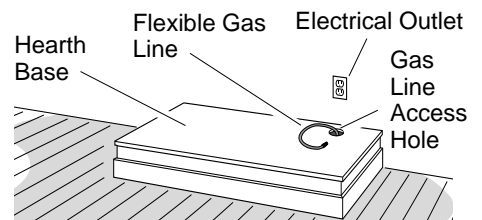

Figure 23 - Placing Hearth Base Accessory Against Wall
- If installing an optional blower accessory (see *Accessories*, page 25). Install a properly grounded 120 volt, three prong electrical outlet at fireplace location if outlet is not there. If possible, locate outlet so cabinet mantel will cover it when installed (see Figure 23).
- Cut an access hole in hearth base top to run flexible gas line to fireplace (see Figure 23). Make sure to locate access hole so cabinet mantel will cover it when installed. *Note:* You can secure base to floor using wood screws. Countersink screw heads and putty over.